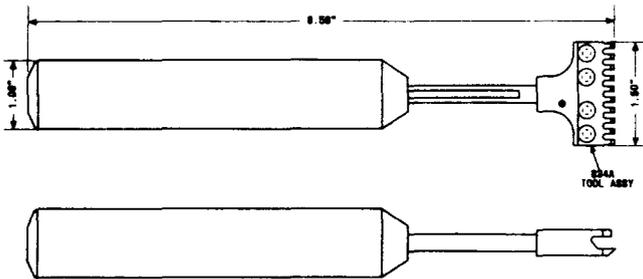

Fig. 16—834B Insertion and Cutoff Tool
2.18 **834B:** The 834B insertion and cutoff tool (Fig. 16) consists of an impact handle and 834A tool. The 834B tool is used to seat and cut ten, 22-gauge polyvinyl chloride conductors mounted in an index strip on the 93-type connecting blocks with one impact.